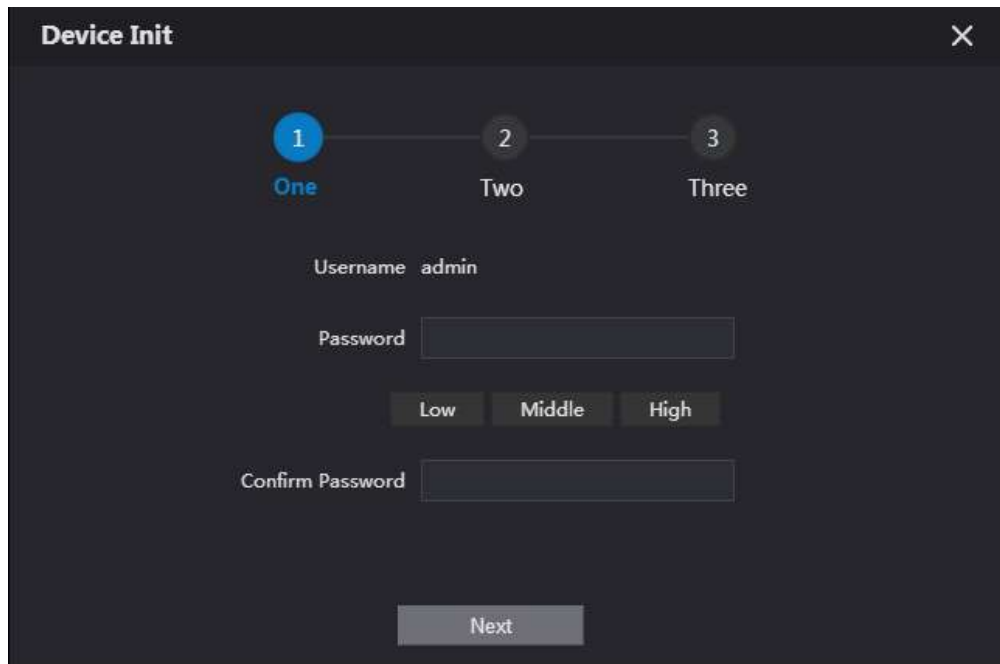

Figure 2-4
Step 1 Power on the device, and enter default IP address of VTO at the address bar of PC browser. The system displays “Device Init” interface, as shown in Figure 2-4.